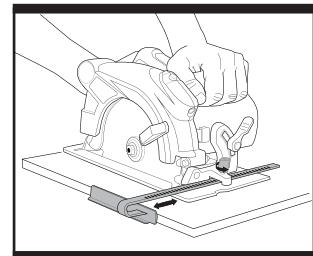

Fig. 4
5. PARALLEL GUIDE ADJUSTMENT (Fig. 4)